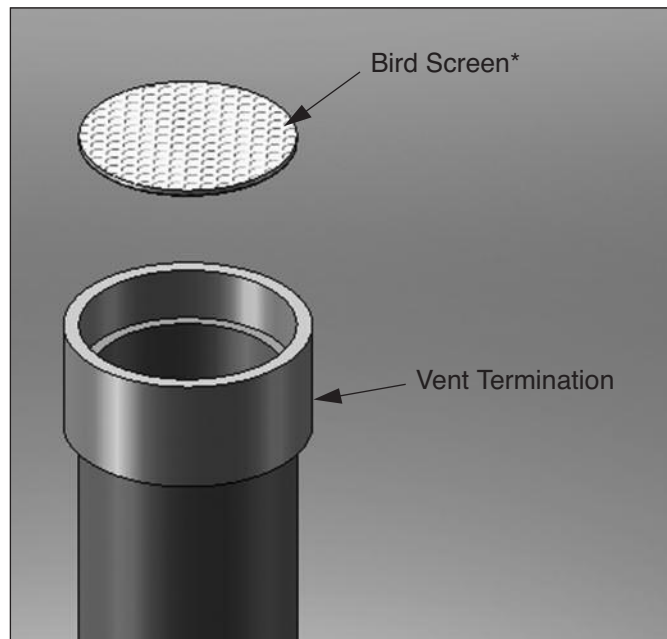

Fig. 4: Vertical Vent Bird Screen Installation
1. The vent and combustion air terminations must include a factory supplied "bird screen" installed as shown in Figs. 4, 5 & 6 on page 6.